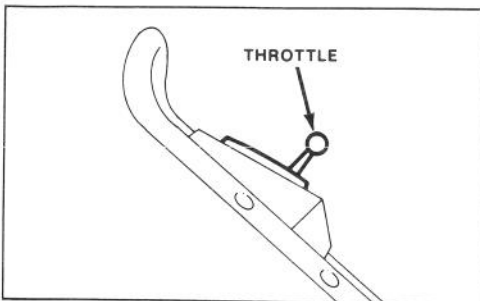

Figure 8
1. CONTROLS (Fig. 8) — Throttle/choke control is on upper handle.
2. STARTING (Fig. 8) — Push wire onto spark plug. Move throttle control to CHOKE. Cover hole in center of primer with thumb and push once. Pull fingertip starter and regulate throttle as required when engine starts.
3. STOPPING (Fig. 8) — Move throttle control to OFF to stop engine and blade. Pull wire off spark plug if mower is unattended or not used.